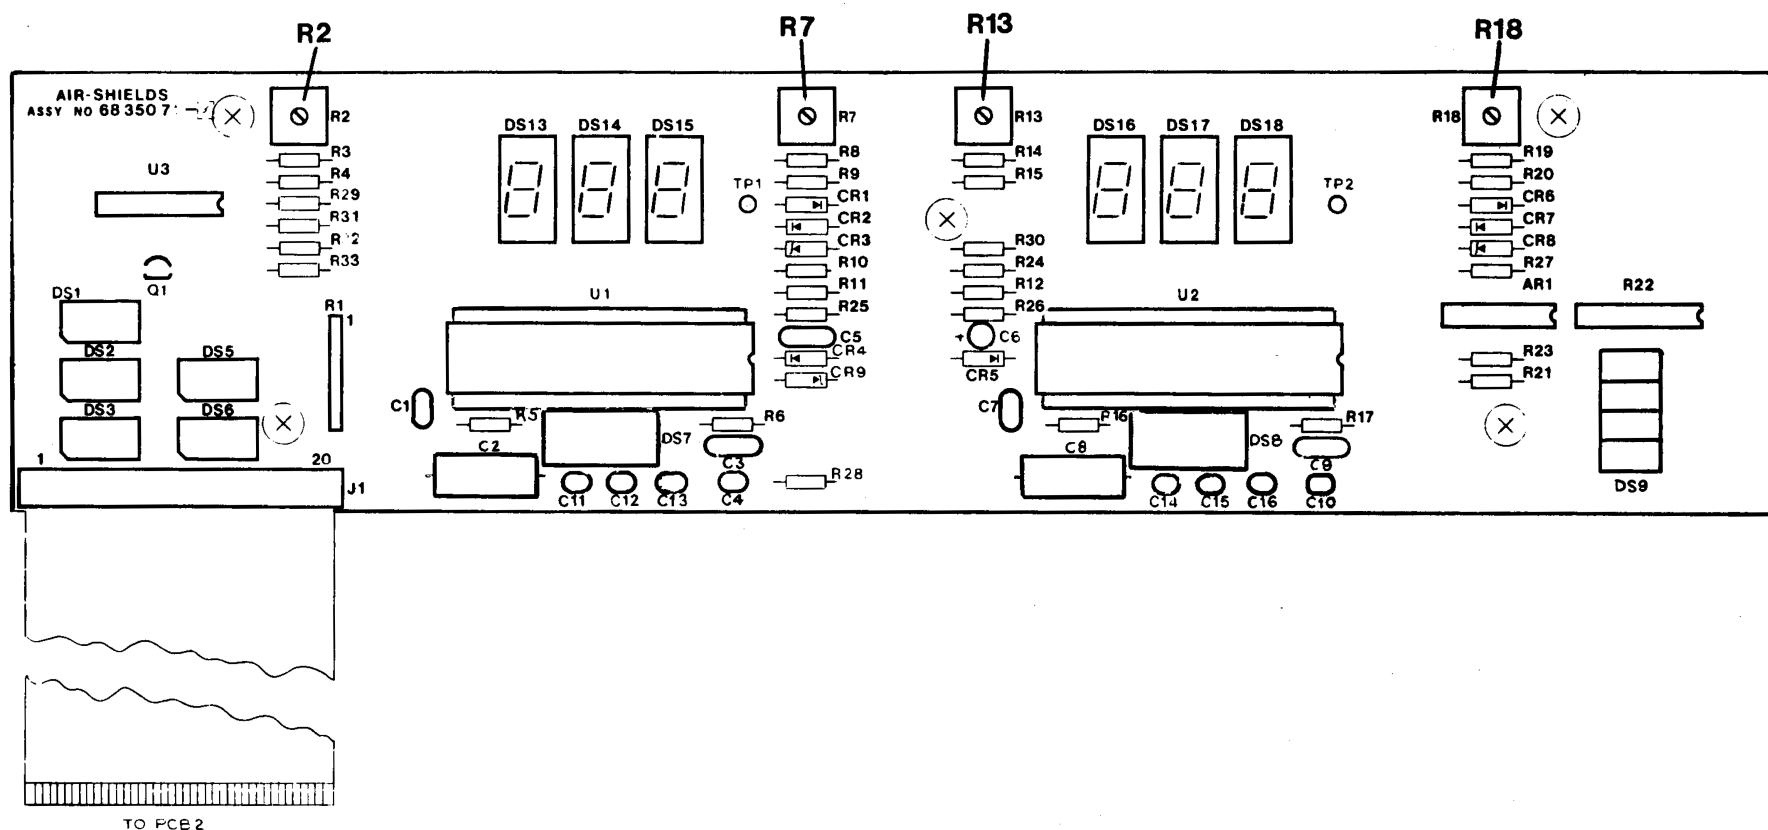

FIGURE 5.2 PCB1 (MODEL C100), LOCATION OF TEST POINTS AND ADJUSTMENTS
2. Connect the Simulator to the PATIENT PROBE and AUXILIARY PROBE jacks on the Side Panel. Set the Simulator to 36°C. Set the Controller and Simulator to SKIN mode. Refer to Figure 5.2. for location of test points and adjustments.